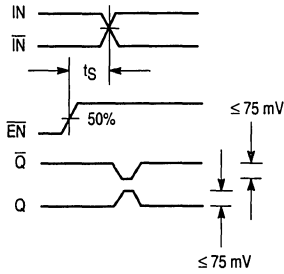

Figure 1. Setup Time
5. The setup time is the minimum time that \overline{EN} must be asserted prior to the next transition of IN/\overline{IN} to prevent an output response greater than ± 75 mV to that IN/\overline{IN} transition (see Figure 1).